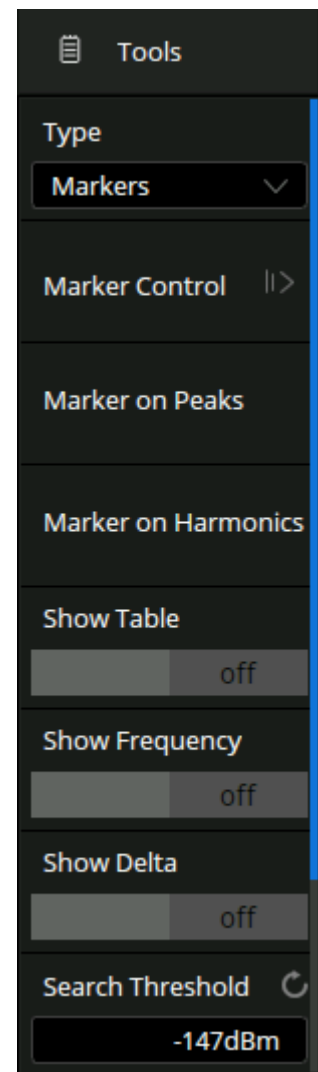

Figure 13.22 Markers Menu
3. Touch **Type** and select **Markers**. The menu shown in figure 13.22 will be displayed.